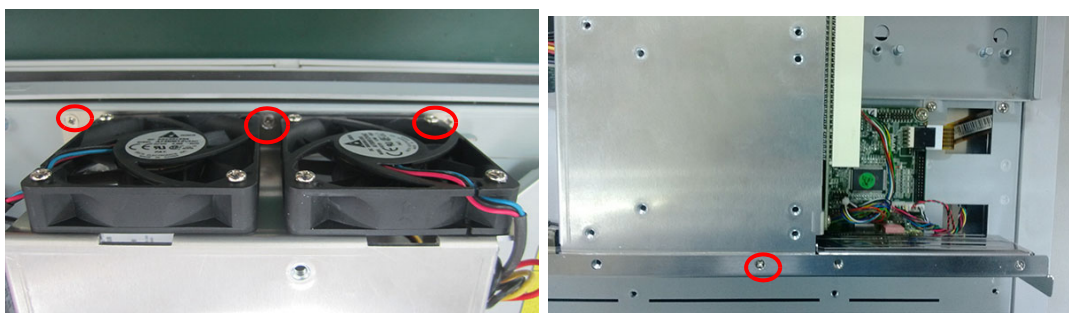

Figure 2.8
3. Remove all the screws in the reinforced board, including the three screws beside the fan (see Fig 2.8) and the one in I/O stop plate.